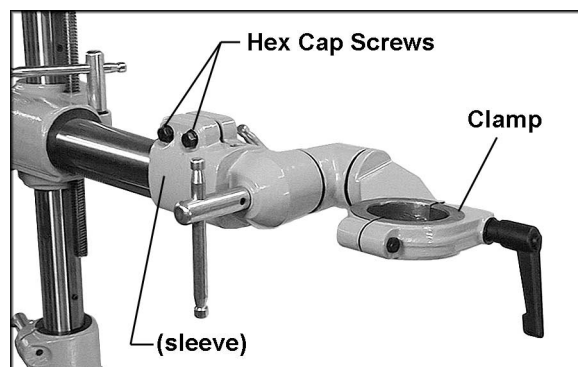
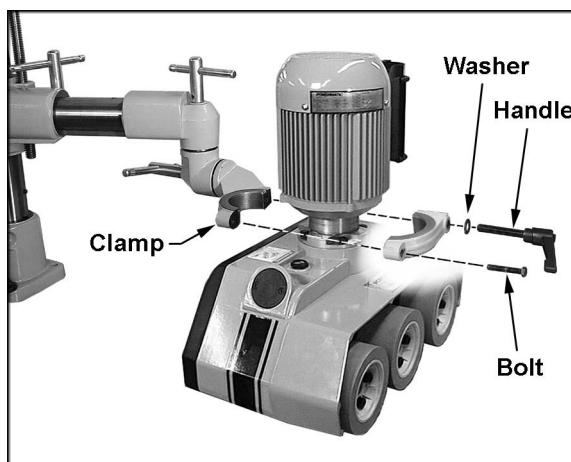

Figure 7
Figure 8
14. Place the sleeve of the over arm cone assembly onto the over arm as shown in Figure 7. Loosen further the two hex cap screws if needed. Push the cone assembly onto the over arm as far as it will go.
15. Tighten the two hex cap screws (Figure 7) with a 14mm wrench.
17. Mounting the feeder body may be easier if you loosen the two hex cap screws (shown in Figure 7) and rotate the over arm cone assembly so that the clamp is toward the bottom, as shown in Figure 8. Loosen the handles and rotate the cones as needed to get the clamp in position. Re-tighten the screws and handles before mounting the feeder body.
18. Unscrew the bolt and the handle (Figure 8) from the clamp, and remove the outer half of the clamp.
The handle (Figure 8) is adjustable. To tighten it, rotate the handle clockwise, then lift out on the handle, rotate it counterclockwise on the pin and release it, making sure it re-seats itself on the pin. Continue this procedure until tight. (This adjustable feature allows the handle to be re-positioned at any time while remaining tight.)